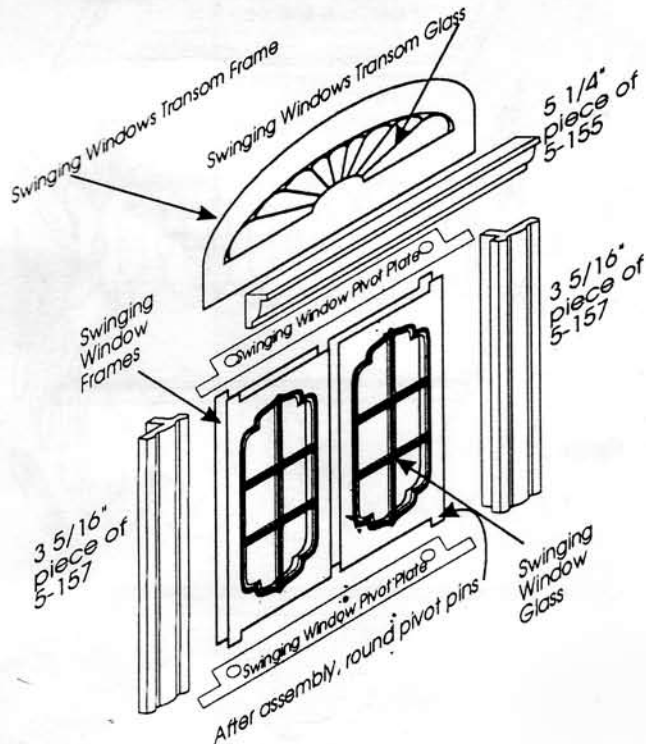

Figure 31
11. Assemble and Install Swinging Windows as in Figure 31.